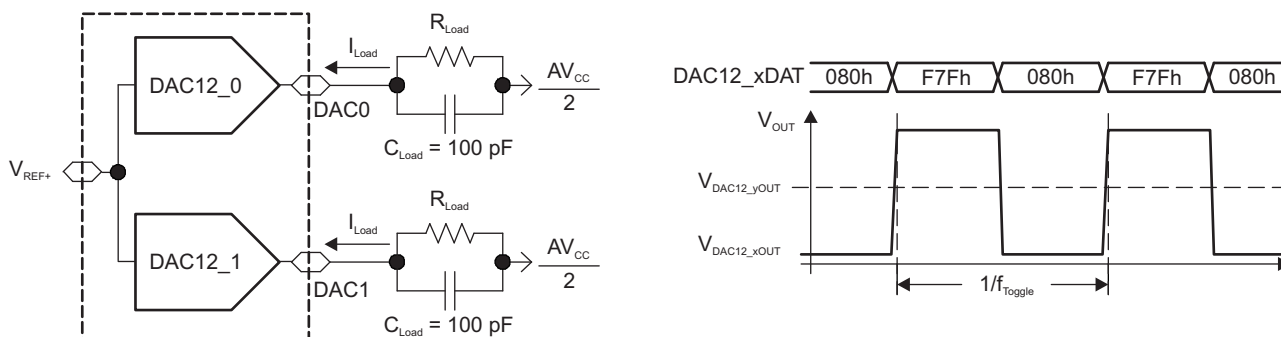

Figure 5-22. Crosstalk Test Conditions
| Channel-to-channelcrosstalk (1) (seeFigure 5-22)                                                     | DAC12_0DAT = 800h, No load,DAC12_1DAT = 80h $\leftrightarrow$ F7Fh, $R_{Load} = 3\text{ k}\Omega$ ,$f_{DAC12\_1OUT} = 10\text{ kHz}$ at 50/50 duty cycle | 2.2 V, 3 V |     | -80 |     | dB   |